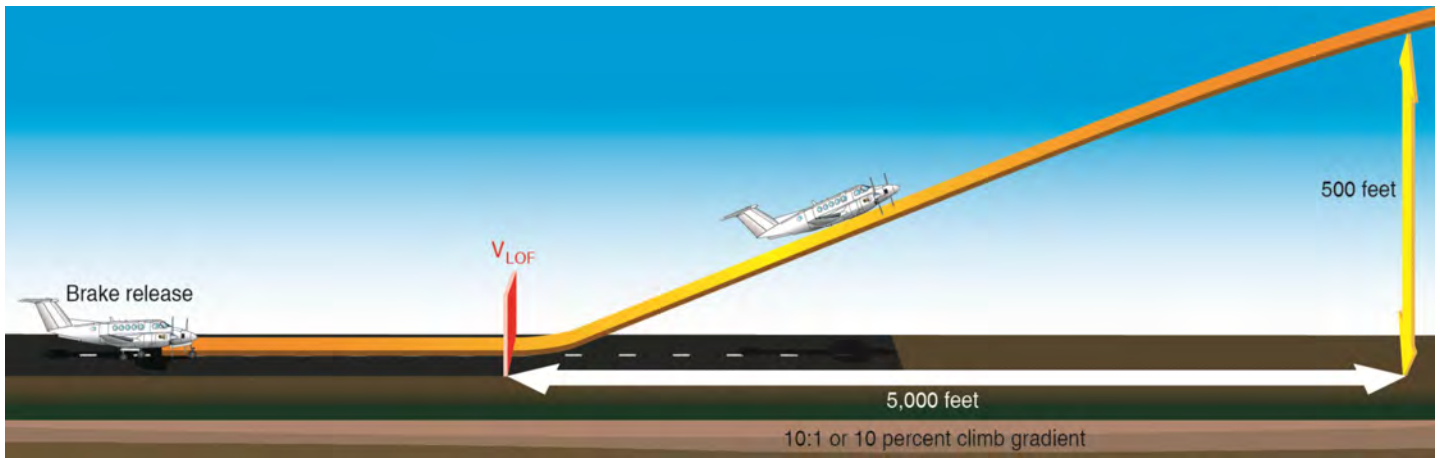

Figure 13-5B. Climb gradient.
- Climb gradient is a slope most frequently expressed in terms of altitude gain per 100 feet of horizontal distance, whereupon it is stated as a percentage. A 1.5 percent climb gradient is an altitude gain of one and one-half feet per 100 feet of horizontal travel. Climb gradient may also be expressed as a function of altitude gain per nautical mile (NM), or as a ratio of the horizontal distance to the vertical distance (10:1, for example). [Figure 13-5B] Unlike rate of climb, climb gradient is affected by wind. Climb gradient is improved with a headwind component and reduced with a tailwind component.